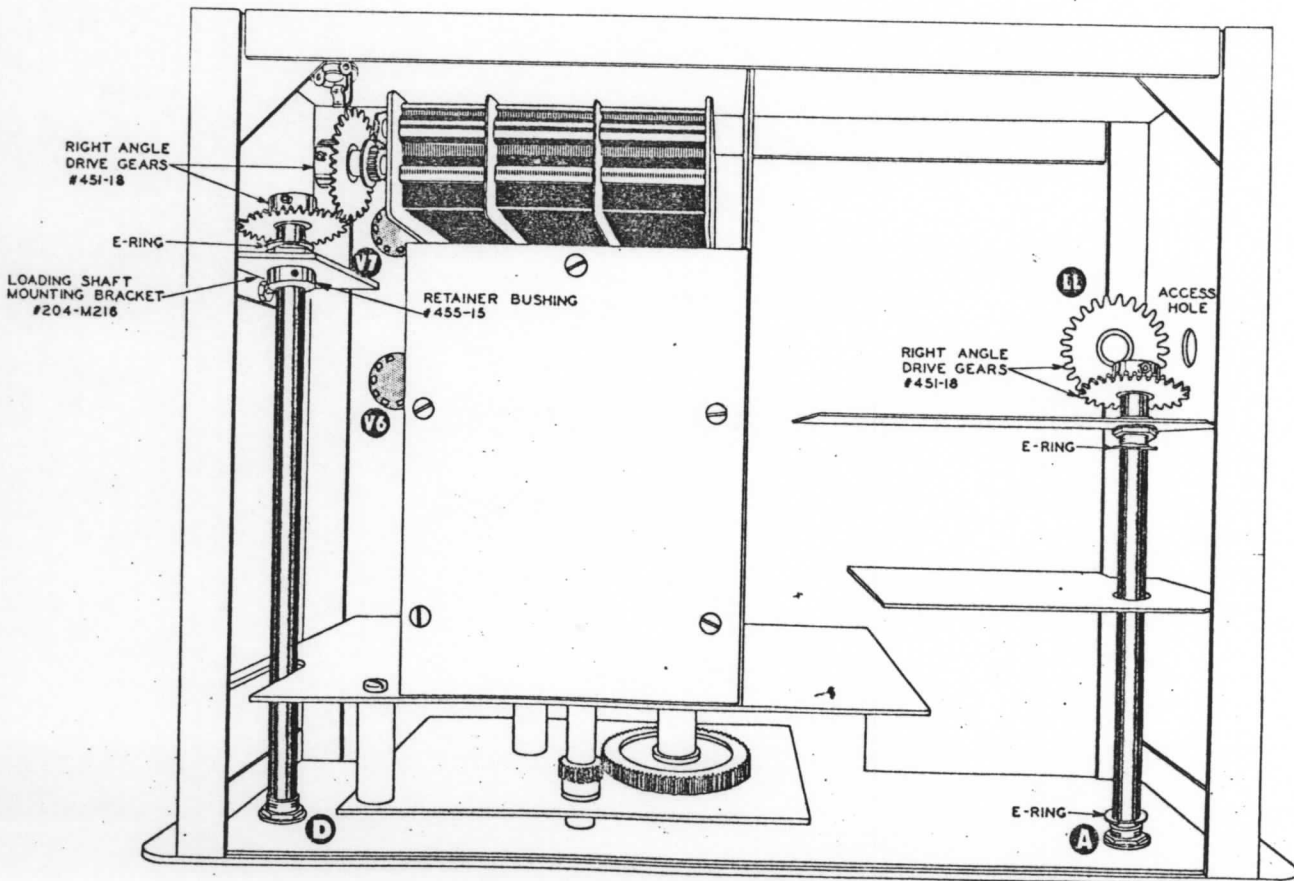

Figure 39
Refer to Figures 39 and 40 for the following steps:
- (✓) Referring to Figure 39, slide the final tuning shaft (#453-72) through bushing A (the end with the E ring groove located 15/16" from the end first) then through the remaining bushing in the rear shield plate. Secure the shaft on the threaded side of bushing A by placing an E retainer ring in the groove. Insert another E ring on this shaft in front of the rear shield plate bushing.